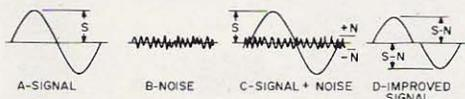

Fig. 1. Preliminary (and incorrect) theory of base clipping.
Shortly before the beginning of World War II, a number of operators and experimenters discovered, more or less independently, that phone signals, made unintelligible by noise, could be "cleaned up" and made more intelligible by base clipping. Theory of operation of the base clipper, as it was outlined at the time, is shown in Fig. 1. This theory was later proved to be somewhat incorrect, yet base clipping demonstrably improved the intelligibility of received phone signals. As originally outlined, if a signal (A) and a noise (B) were both present in an audio circuit, the resultant combined signal (C) could be "cleaned up" by eliminating all parts of it from $+N$ to $-N$, giving the improved signal (D). The rounding off of the zero-crossing "step," caused by base clipping, occurred in later stages of amplification. A recent base-clipper circuit, using this principle, has been outlined by Shelby.¹